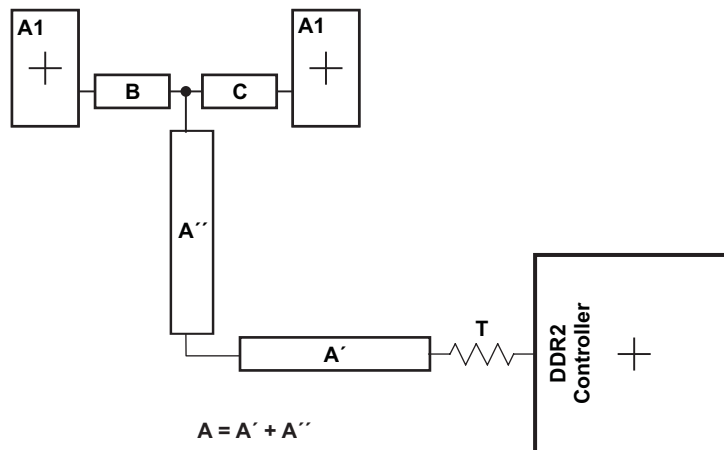

Figure 9-52. CK and ADDR_CTRL Routing and Topology
Figure 9-52 shows the topology of the routing for the CK and ADDR_CTRL net classes. The route is a balanced T as it is intended that the length of segments B and C be equal. In addition, the length of A ($A'+A''$) should be maximized.
(1) The length of segment A = A' + A'' as shown in Figure 9-52.
(2) Series terminator, if used, should be located closest to the processor.
(3) Center-to-center spacing is allowed to fall to minimum (w) for up to 500 mils of routed length to accommodate BGA escape and routing congestion.
(4) CACLM is the longest Manhattan distance of the CK and ADDR_CTRL net classes.